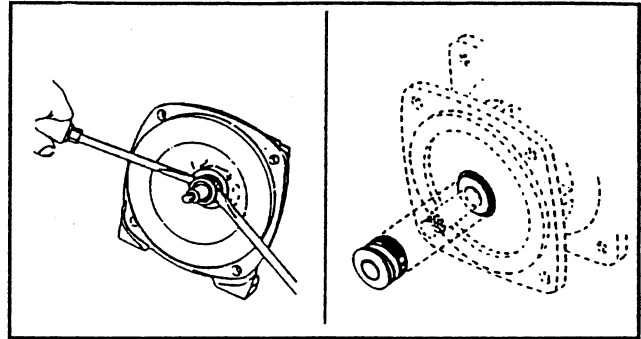

FIG. 11
1. Lightly lubricate shaft for easier removal of seal. Using two screwdrivers positioned opposite each other, pry the rotary portion of the seal from the shaft. See FIG. 11.
4. To install the rotary portion of the mechanical seal, place it over the shaft with the carbon side facing in, and press until it bottoms out against the stationary portion. See FIG. 11.